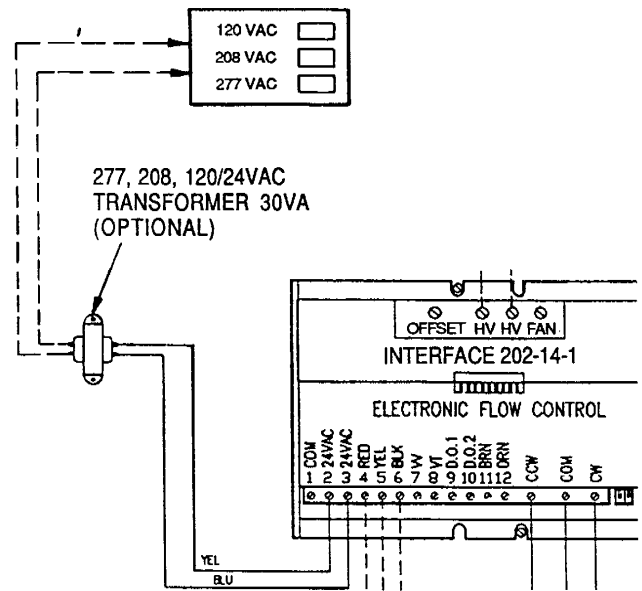

Fig. 22 – Wiring of Factory-Mounted Transformer
1. If a transformer is specified and ordered, the transformer is factory mounted on the unit side with secondary 24 v wired to the electronic flow control. Primary voltage is then brought to the transformer. See Fig. 22 for typical wiring. Refer to actual unit wiring label for specific details.
2. If factory-mounted transformer is not ordered with unit, a field-supplied 30-va transformer may be used. Transformer must be wired the same as the factory-installed transformer shown in Fig. 22.
3. If the control voltage (24 v) is distributed through the building, no transformer is required; the voltage can be connected directly to the flow control terminals as shown in Fig. 22.